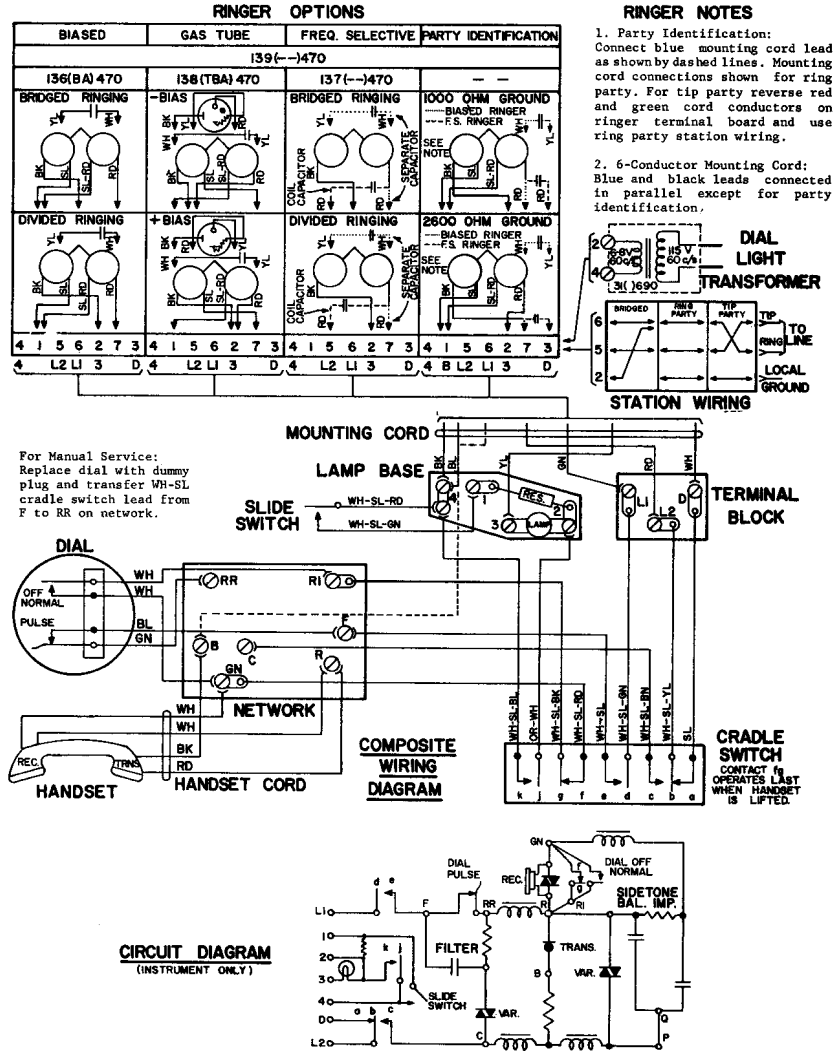

FIGURE 1 DIAGRAMS 701--(L)30- TELEPHONE
- 2.03 When a ringer is required, any ringer including the specially designed ringers for this series of telephones may be used. See Figure 1 for ringer wiring diagram.
- 1.02 The installed telephone must be provided with a separately mounted external ringer. See Figure 1 for a wiring diagram.